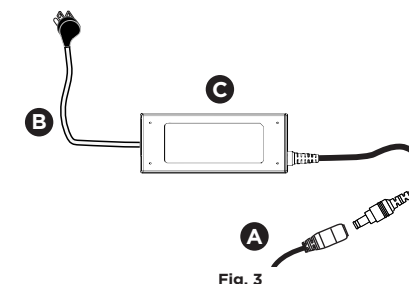

Fig. 3
- Plug in the connector of the two **Heaters A** into the **Power Supply C** (Fig. 3).